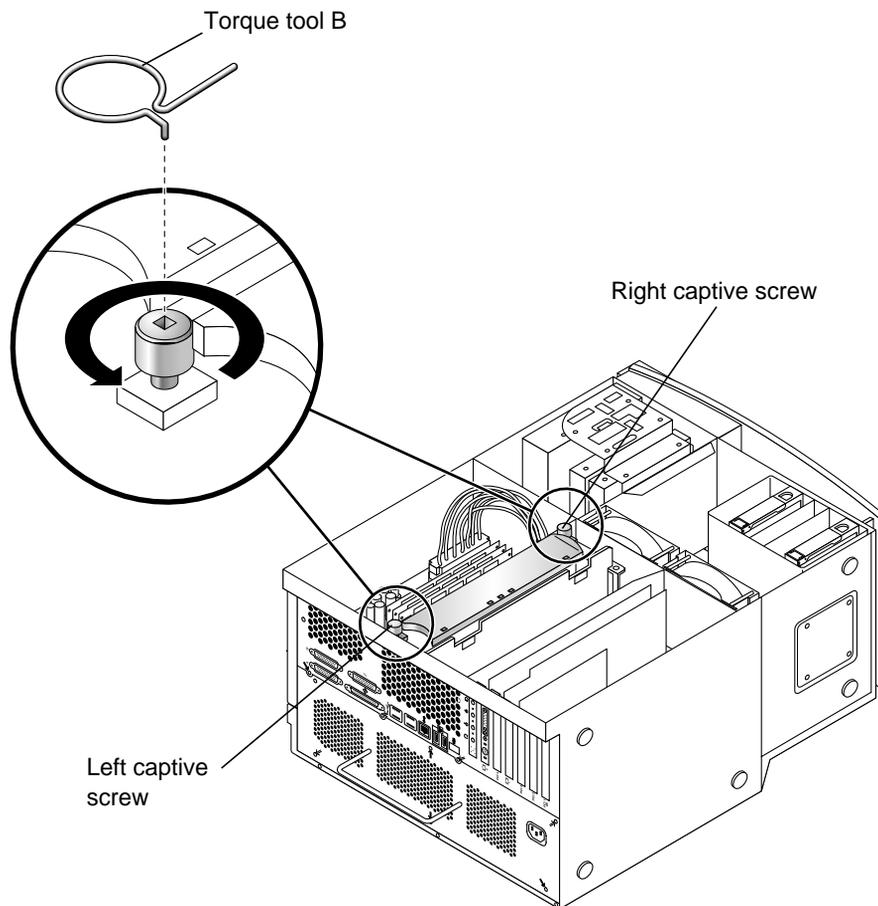

FIGURE 10 Using Torque Tool B to Remove the CPU Module
a. Remove the cover for the CPU shroud (see FIGURE 10).
b. Alternately rotate the left and right captive screws one turn counterclockwise until the screws are free of the threaded inserts (see FIGURE 10).